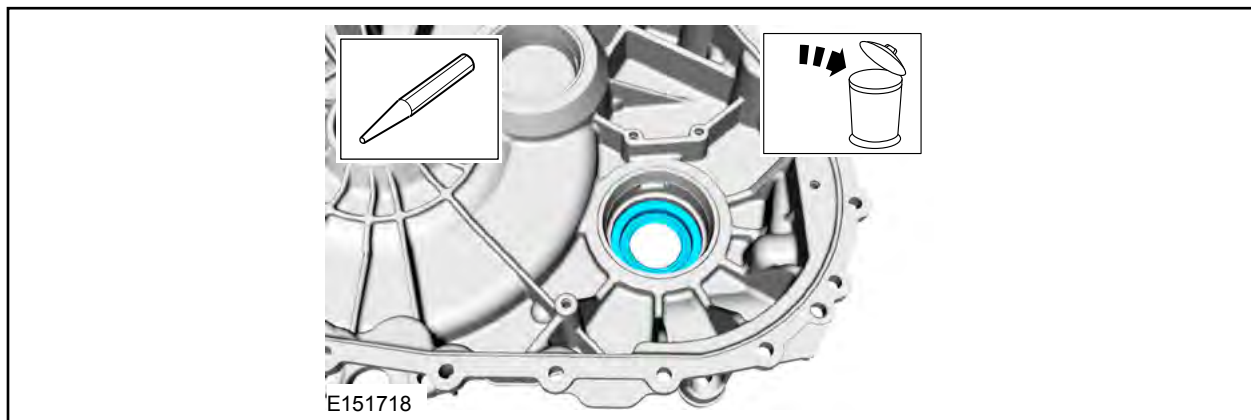

FIGURE 7
4. Remove and discard the RH halfshaft seal. See Figure 7.